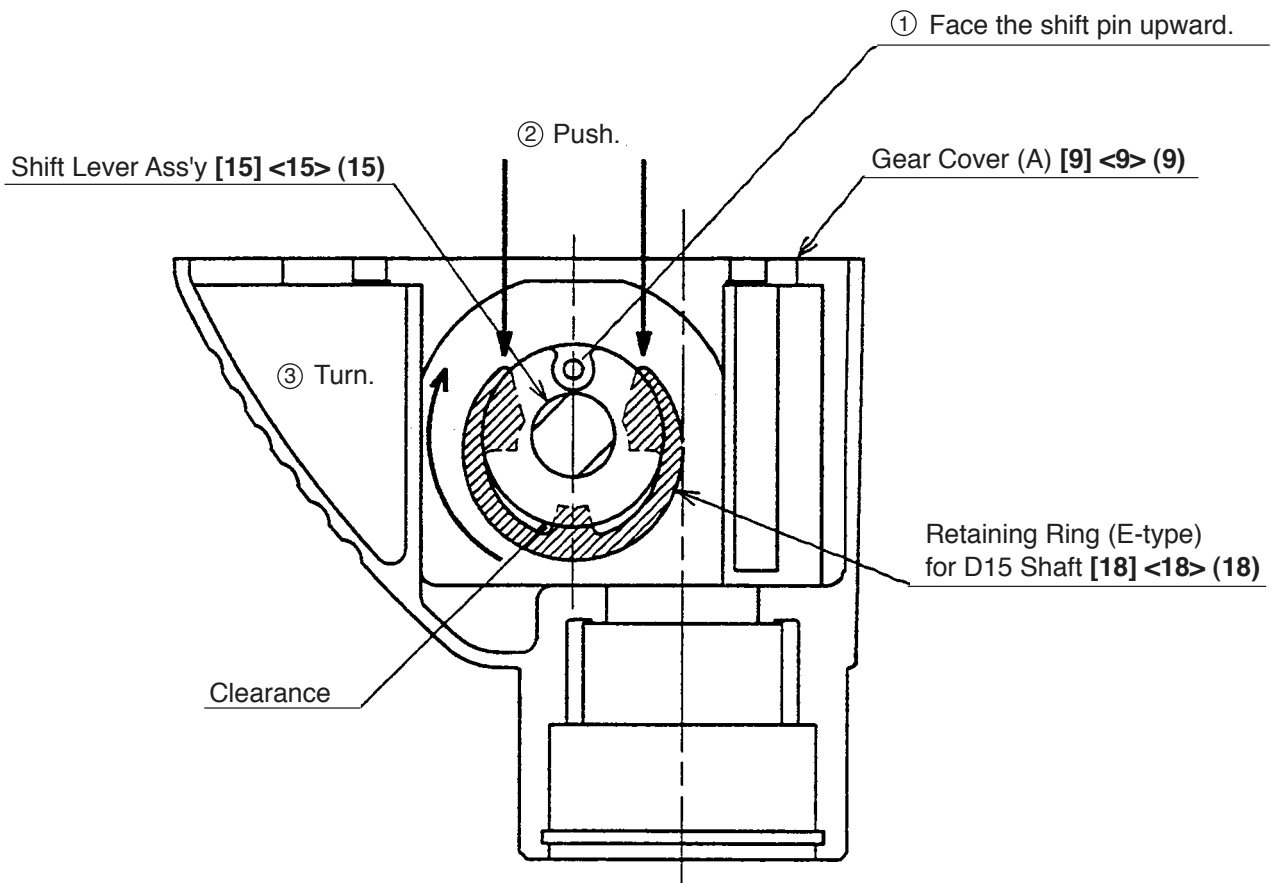

Fig. 11
(2) Removal of the shift lever
Position the Shift Lever Ass'y [15] <15> (15) as shown in Fig. 11. Push both ends of the Retaining Ring (E-type) for D15 Shaft [18] <18> (18) with a pair of long-nose pliers until a clearance about 1 to 2 mm is made. Keeping the clearance, turn the Shift Lever Ass'y [15] <15> (15) by 180 degrees together with the Retaining Ring (E-type) for D15 Shaft [18] <18> (18). Insert a flat-blade screwdriver into the clearance and pry the Retaining Ring (E-type) for D15 Shaft [18] <18> (18) off upward.